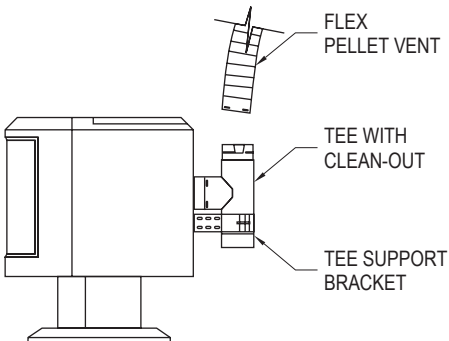

Figure 12
9. If a Tee is necessary to make the connection, as shown in **Figure 12**, the Tee has a removable Clean Out Adapter on its base to enable cleaning. The Tee Support Bracket to hold the Tee to the rear of the appliance is mandatory. If it is desired to mount the Tee Support to the rear of the stove, obtain approval from the manufacturer of the stove before drilling, tapping, or performing any other alterations to the appliance.